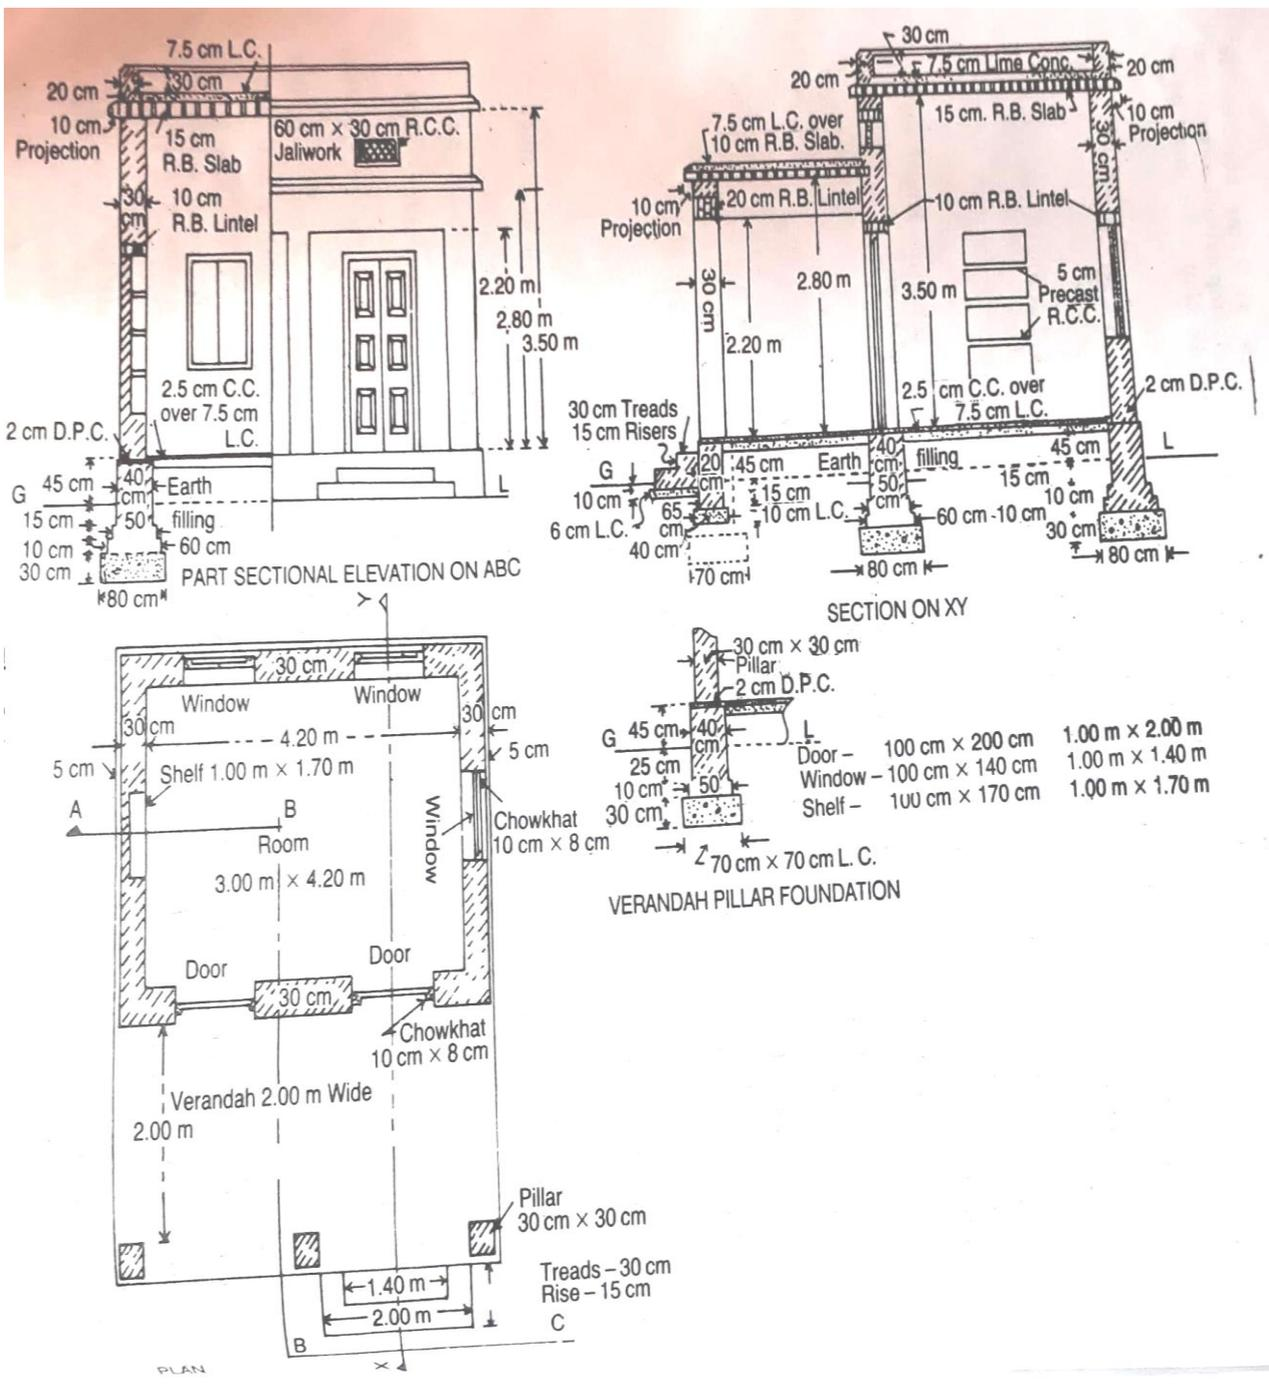

Fig. 1.
5. Estimate the quantities of following item of works from the Single-roomed Building shown in Fig. 1. a) Earthwork in Excavation in foundation, b) Lime concrete in foundation, c) 1st class brickwork in superstructure in lime mortar. 14M